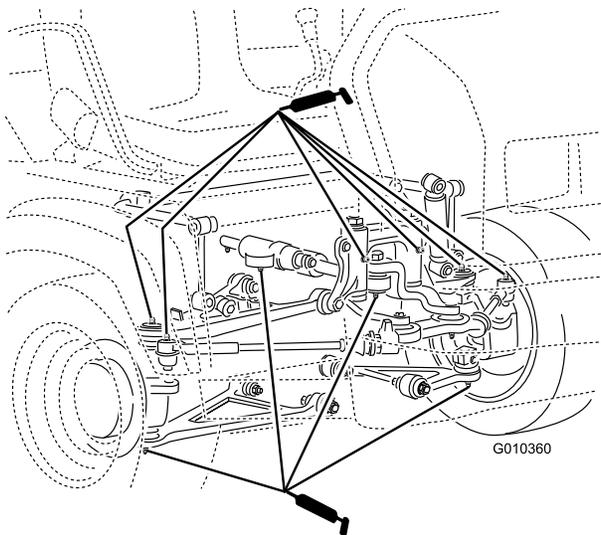

Figure 48
- **Ball joints** (4); refer to Figure 48
- **Pivot mounts** (2); refer to Figure 48
- **Steering cylinder** (2); refer to Figure 48
- **Tie rods** (2); refer to Figure 48